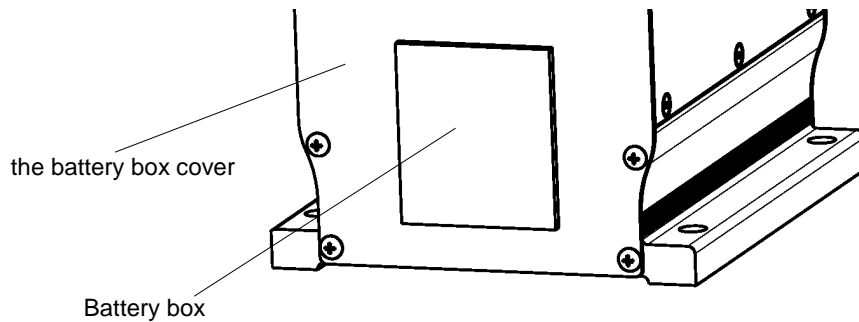

Fig. 5.1 Battery box location
- 4) Please remove the battery box cover “Fig.5.1”. Eject connector by reference of the next Fig and check electric voltage about 4.5V by tester. If electric voltage is